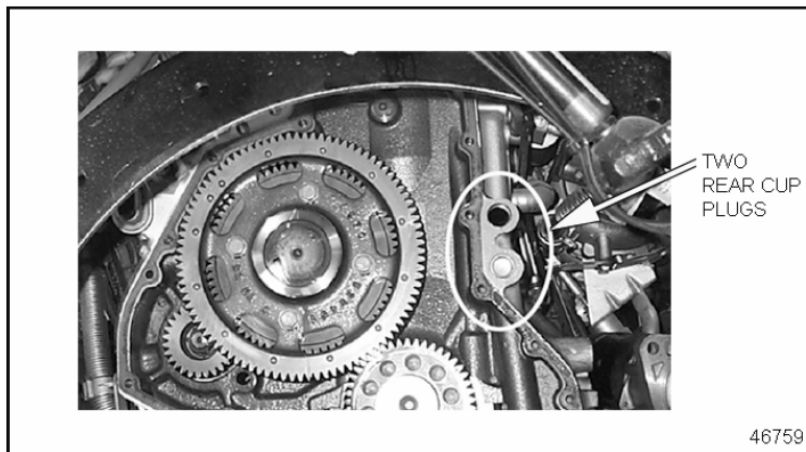

Figure 1 Removal of Two Rear Cup Plugs
10. Remove the two rear cup plugs using the following procedure. Make sure to not damage the plug bores in the cylinder block. See Figure 1 for location of cup plugs.